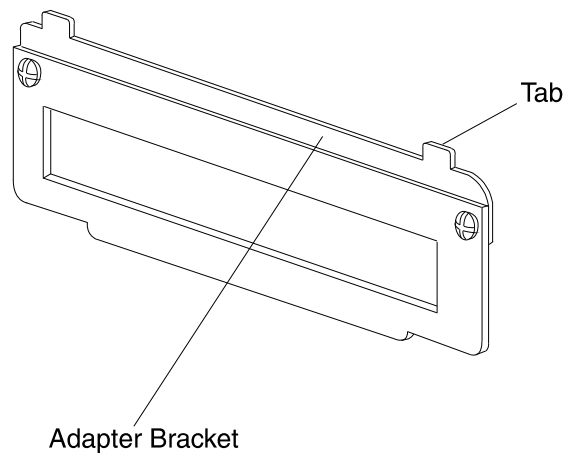

Figure D-20: SBus Card Adapter Bracket
4. Remove the adapter bracket (see Figure D-20) from the SBus card (if necessary) by doing the following: